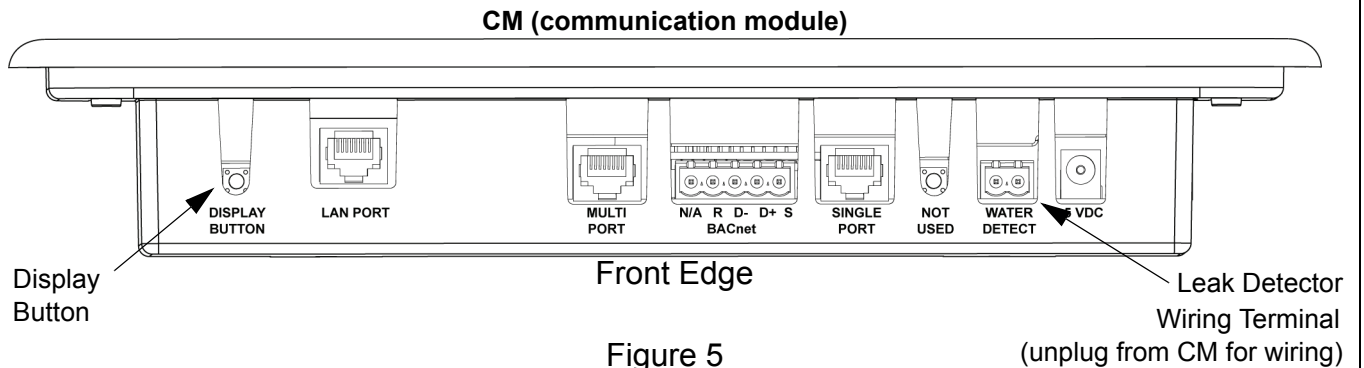

Figure 5
This section provides instructions for connecting the Leak Detector to the iCOMM™ system's CM (communication module). The Leak Detector comes with a 25 foot length of 18 gauge two conductor (18/2) SJ cord - see Figure 5. Operation is based on continuity; a water level of approximately 1/4" will activate the Leak Detector.
- 5 Split the end of the SJ cord and strip 1/4" of insulation from the two wires and connect them to the "WATER DETECT" wiring terminal on the CM - see Figure 5. Unplug the "WATER DETECT" wiring terminal from the CM when making connections and tighten terminal screws securely.
If the Leak Detector is activated by rising water the CM and Alarm Box (if so equipped - see page 25) will sound an audible and visual alarm. The alarms can be silenced/disabled by pressing the Display Button on the CM several times - see Figure 5. The Leak Detector must dry out completely before the alarm condition can be cleared. The Leak Detector will air dry over time or can be dried out with compressed air or a heat gun.